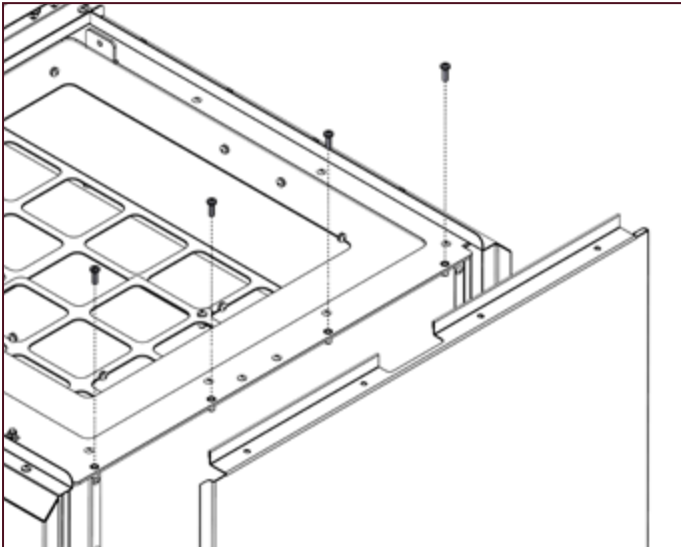

Figure 10-6: Removing the four screws and front panel
2. Remove the front panel from the side pellet store. Undo and remove the four panel retaining screws at the top edge of the front panel. Refer to Figure 10-6. Lift the front panel upwards and off the side pellet store casing.